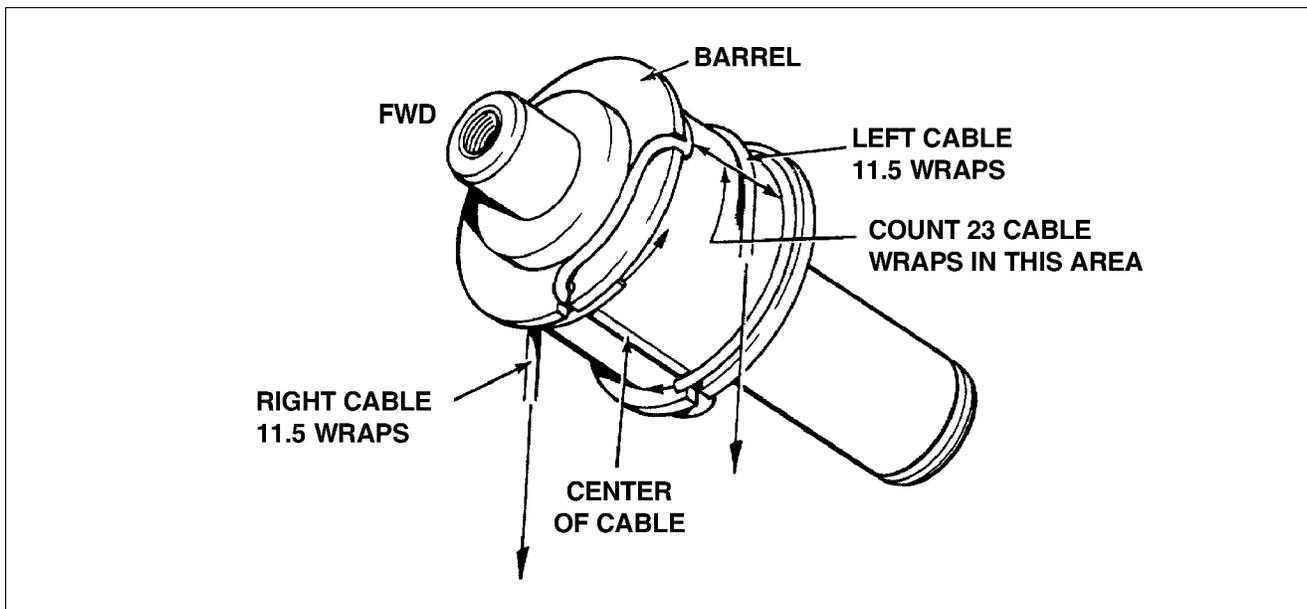

Figure 27-24. Wrapping Trim Barrels
- a. Wrap the trim barrel by (refer to Figure 27-24):
- (1) Laying center (as measured equally from each end to center of the cable) of trim cable in slot of the barrel.
- (2) Bring half of cable to be used on right side through e diagonal slot in flange at forward end of barrel and wrap aft in a clockwise direction 11.5 wraps to the center of barrel.
- (3) Bring half of cable to be used on left side through diagonal slot in aft end of barrel and wrap forward in a counterclockwise direction 11.5 wraps to the center of barrel.
- (4) Count a total of 23 cable wraps on top side of the barrel. (Refer to Figure 27-24.)